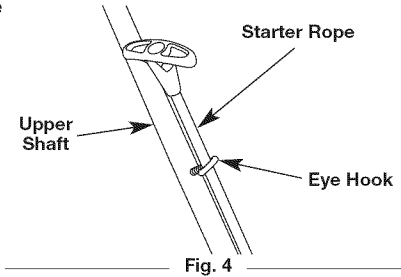

Fig. 4
- Pull out the starter rope and run it through the eye hook (Fig. 4).
The unit is supplied with one 3.04 fluid oz. (90 ml) bottle of SAE 30 SF, SG, SH oil (Fig. 4).